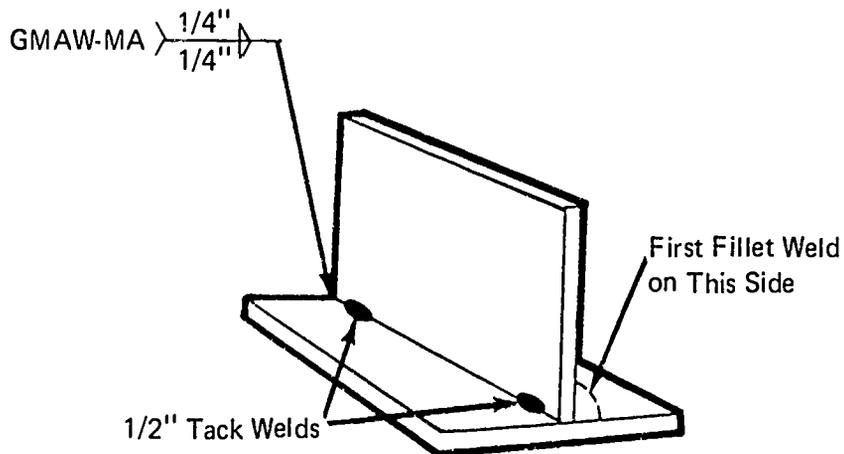

FIGURE 2
- E. Prepare metal by leveling one T-joint and make two $1/2''$ tacks (Figure 2)